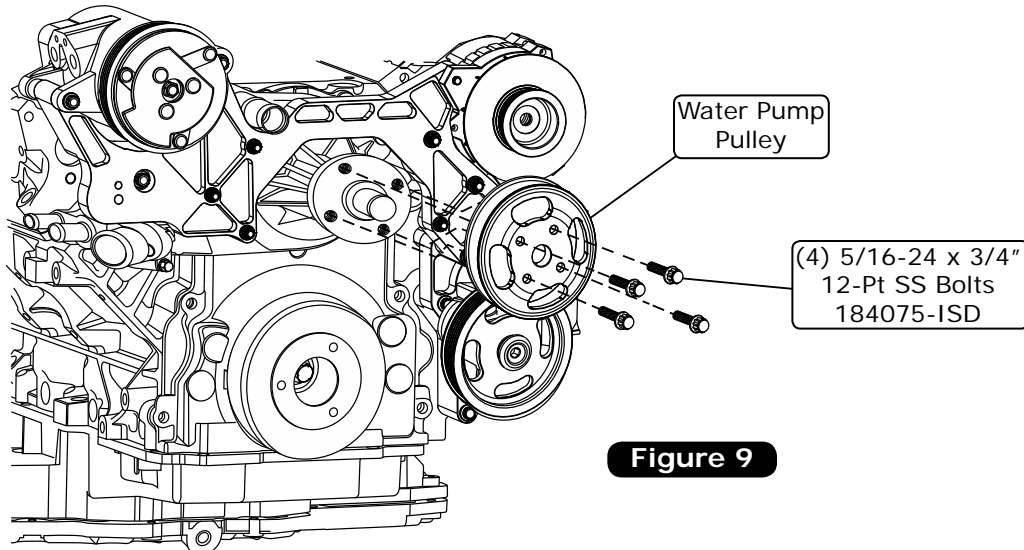

Figure 9
1. Install the water pump pulley onto the water pump using (4) 5/16-24 x 3/4" bolts as shown in Figure 9, below. Torque to 22 lb ft.